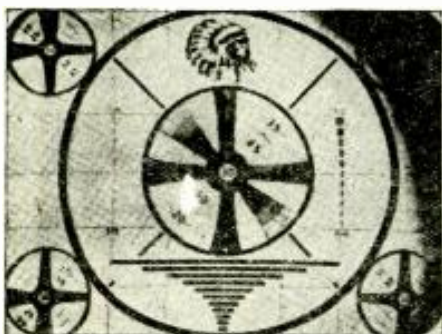

Fig. 8—The ion trap position is incorrect.
5. The appearance of a dark area on one edge of the screen can be traced directly to an improper alignment of the ion trap. (See Fig. 8.)